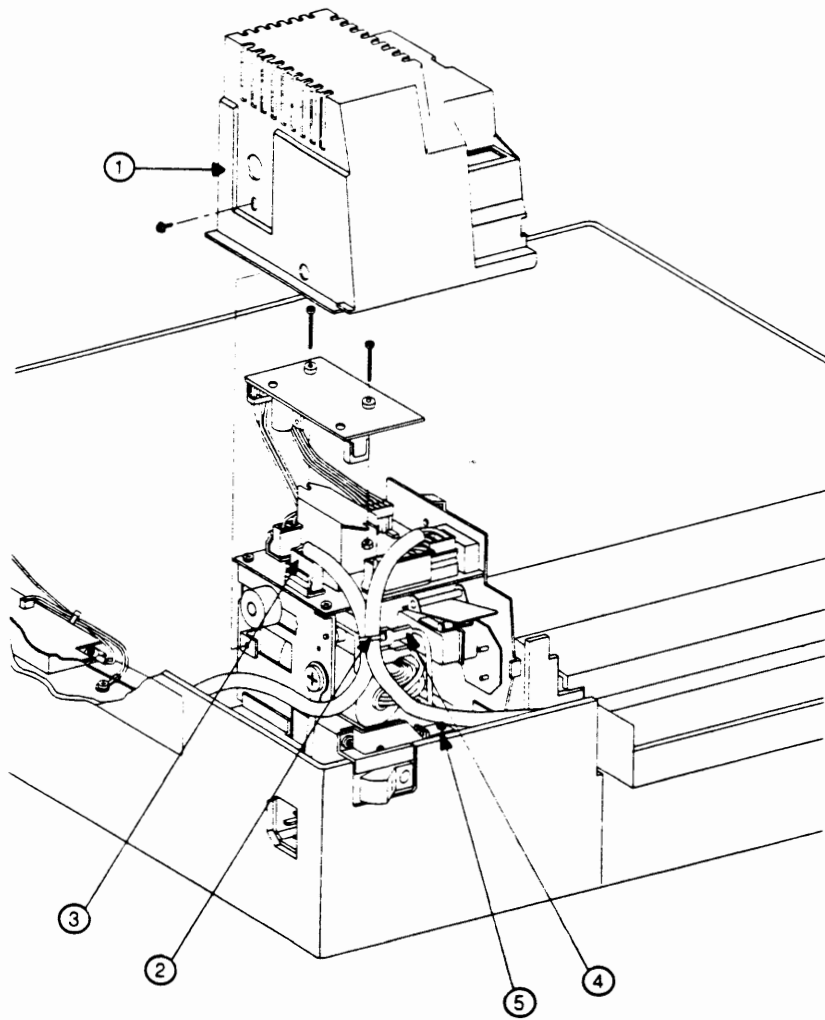

FIGURE 2-43
6. Replace the wedge at the base of the Power Interlock Assembly and install its long black screw (Figure 2-43, #5).
7. Connect the two black wires with spade connectors to their terminals on the Power Interlock Assembly (Figure 2-43, #4).
9. Using a cable tie, tie together the three cables to the Power Interlock Assembly, as they were before (Figure 2-43, #2).